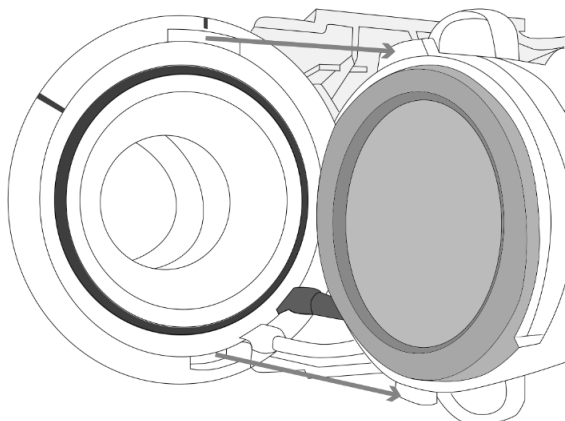

Figure 10- Alignment of Flowhead Subject End and Heater Assembly
6. Fit Flowhead Subject End to Heater Assembly by lining up large and small alignment keys as in Figure 10 and then turning the parts clockwise to the lock position. This forms the Flowhead.